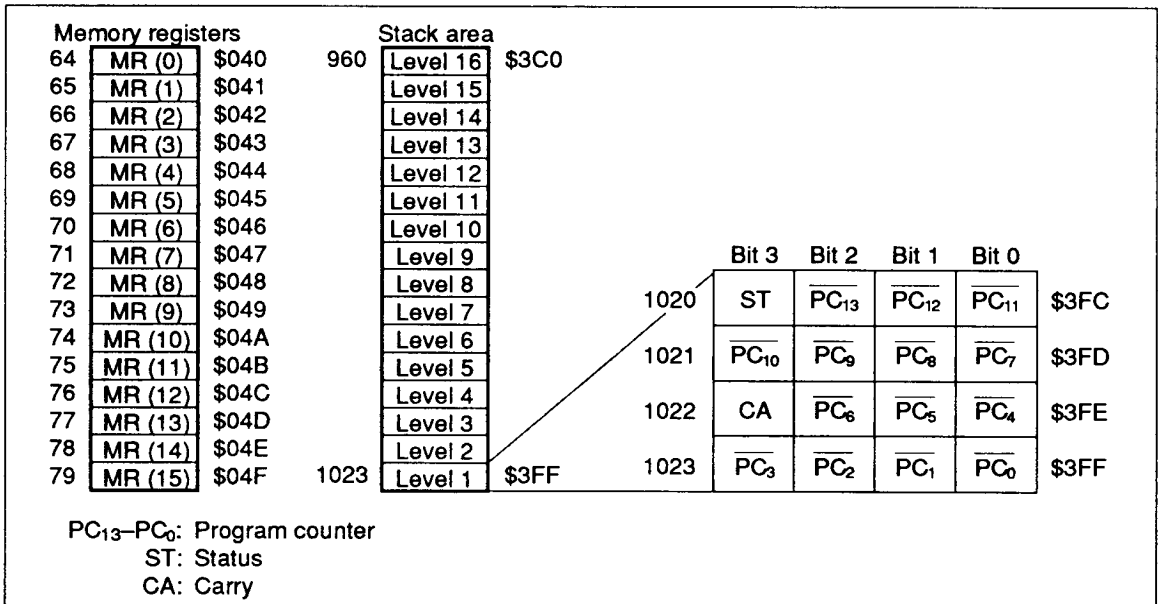

Figure 4 Configuration of Memory Register and Stack Area, and Stack Position
Data Area (HD404328: \$040–\$04F and \$070–\$11F, HD4074329: \$070–\$21F): The memory register (MR), which is 16 digits (\$040–\$04F) long, can be accessed by the LAMR and XMRA instructions. Its structure is shown in figure 4.
Stack Area (\$3C0–\$3FF): Used for saving the contents of the program counter (PC), status (ST), and carry (CA) at subroutine call (CAL, CALL) and interrupt servicing. This area can be used as a 16-nesting-level subroutine stack in which one level requires four digits. The data to be saved and the save conditions are shown in figure 4.